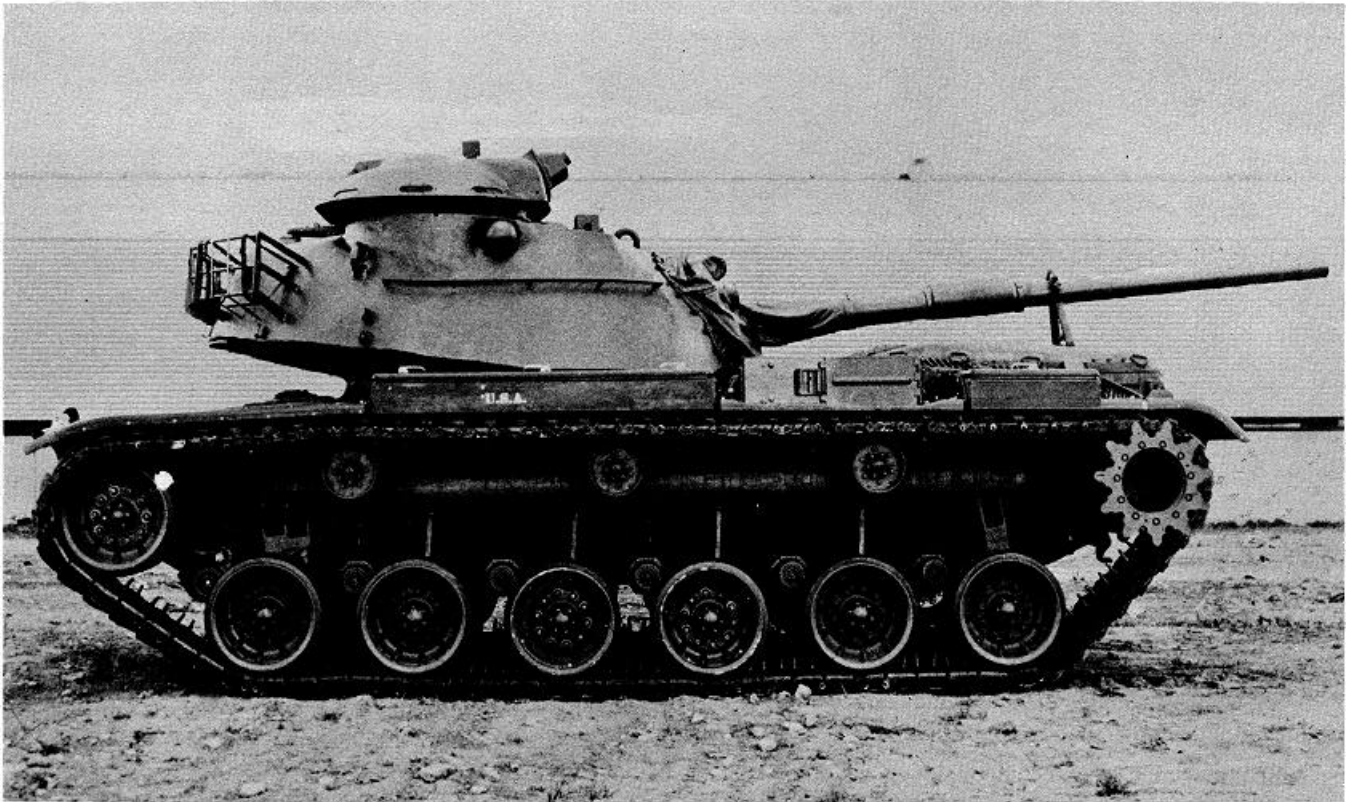

Figure 2-2. Tank, combat, full-tracked, 105-mm-gun, M60A1.
c. M60A1 (fig 2-2). The M60A1 armament includes a 105mm gun (M68) mounted in a combination gun mount (M140), with a coaxially mounted 7.62mm machine gun mounted on the combination mount and CA1; furnisher a caliber .50 machine gun mounted in the commander's cupola (M19).